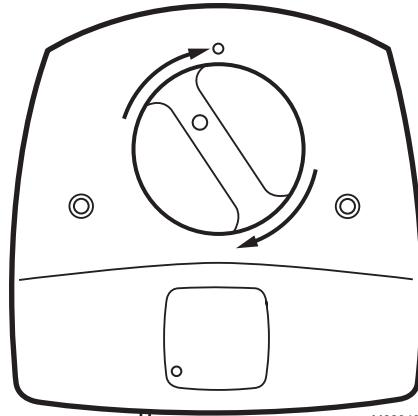

Fig. 7. Snap lamp into place.
- Rotate the lamp handle clockwise until it snaps into place with the lamp indicator light aligned with the raised button on the unit cover. See Fig. 7.